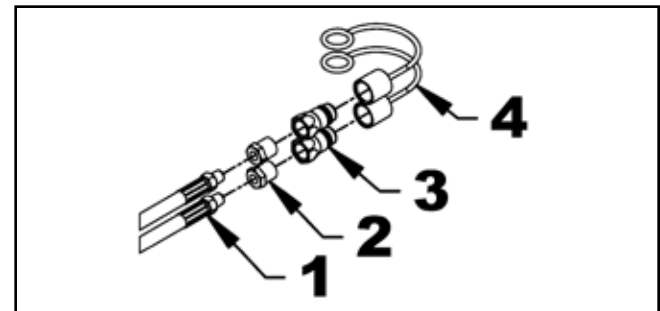

Figure 32. Assemble Quick Couplers
4. Figure 32: Using thread sealant, install a 1/4" NPT female x 1/2" NPT male reducer (2), a male quick coupler (3) and a dust cap (4) on the end of the two hoses (1).